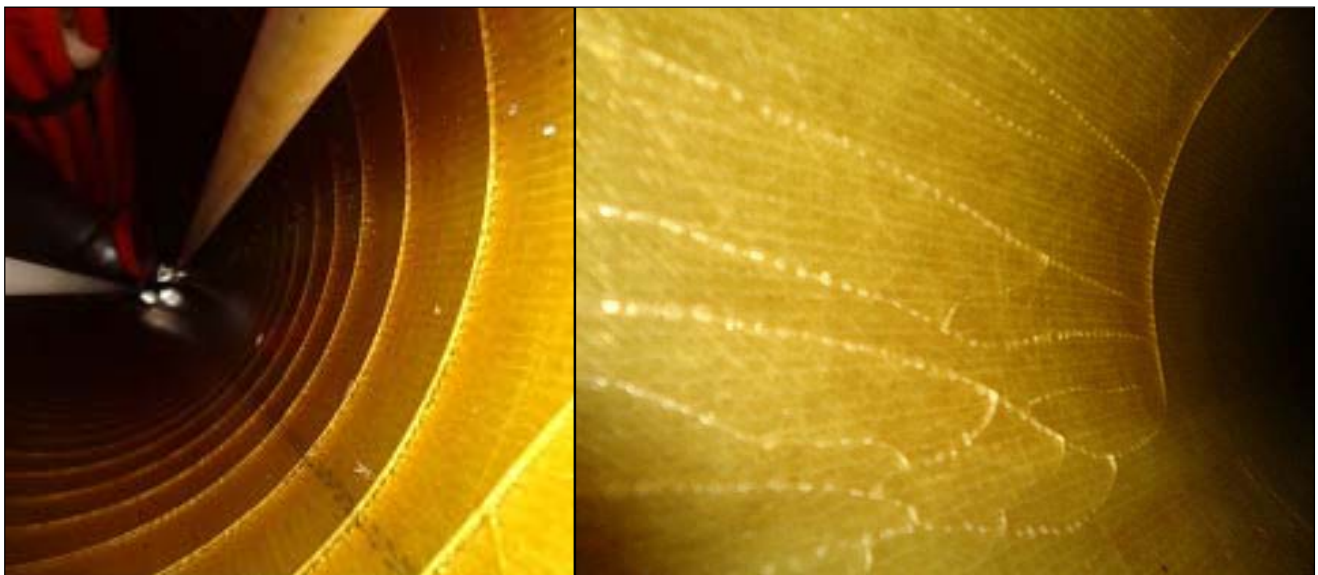

Figure 3 — Inside Boom (representative cracks shown)
10. Use a scope, camera, or similar method to closely examine the inside of the boom near the fiberglass to steel joint. While doing the inspection look for any of the following (refer to Figure 3).